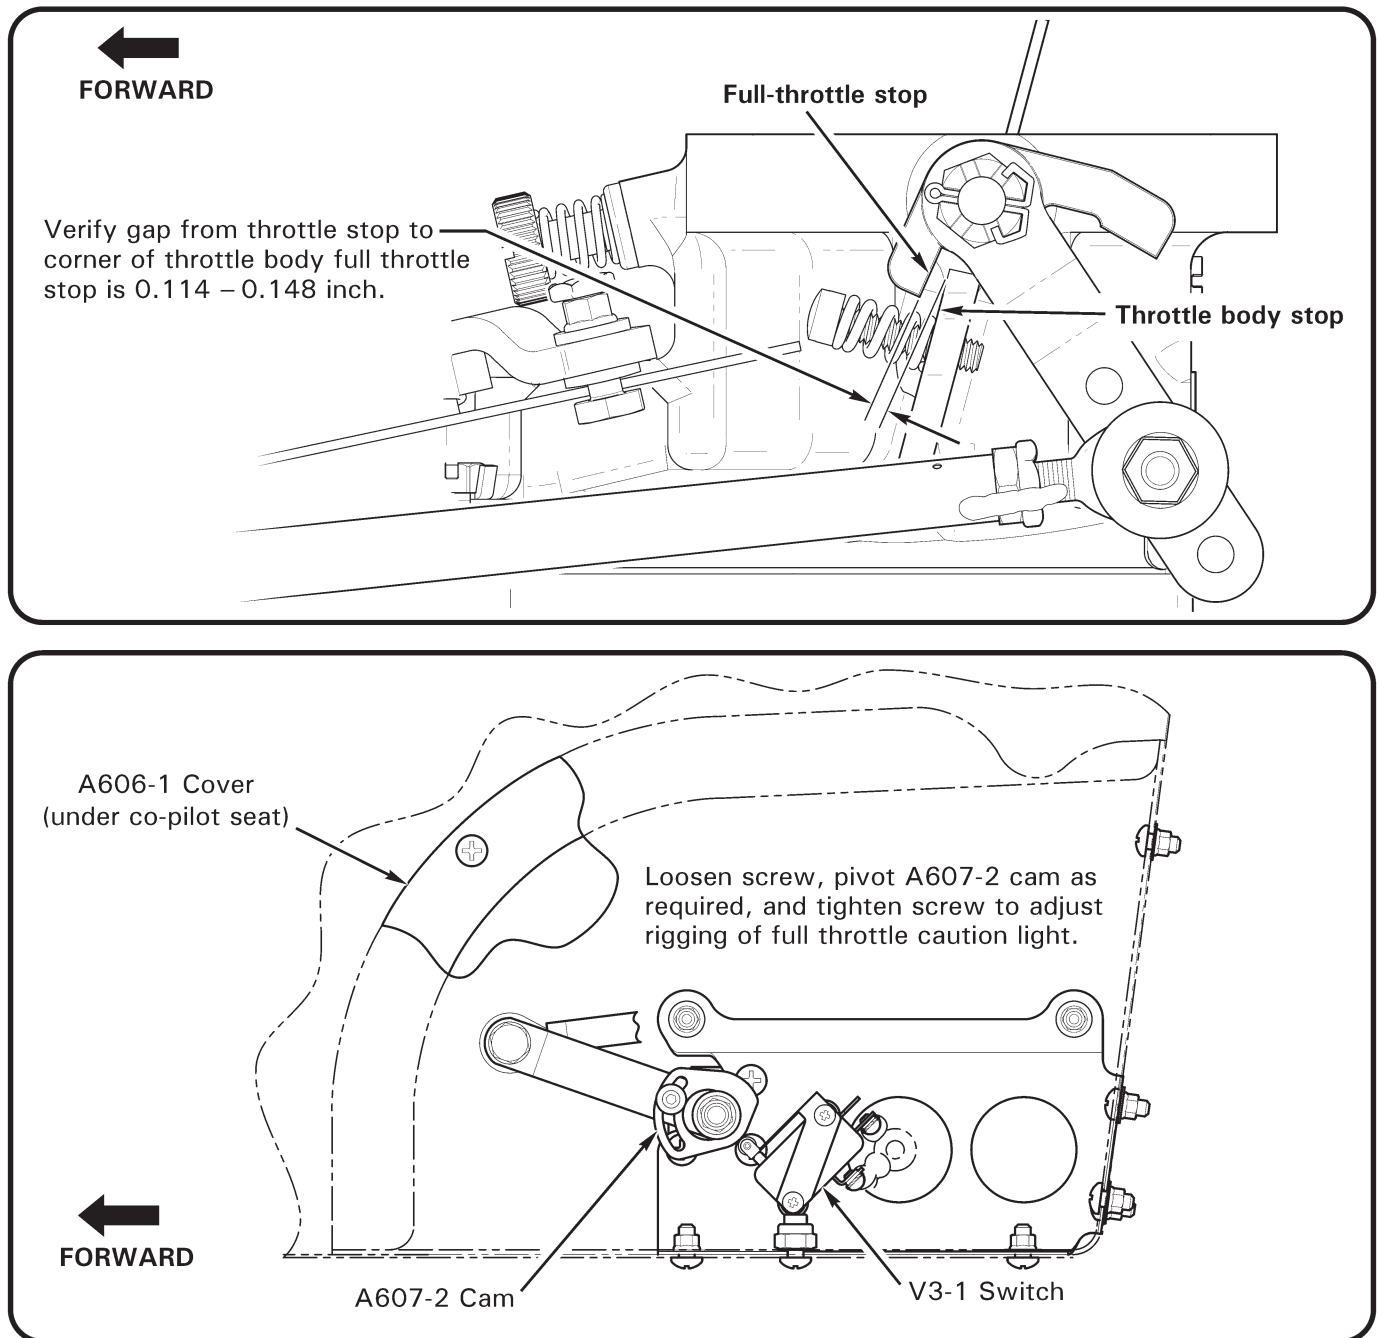

FIGURE 33-1 FULL THROTTLE CAUTION LIGHT RIGGING CHECK
- c. Refer to Figure 33-1. Verify gap from throttle stop to corner of throttle body full-throttle stop is 0.114–0.148 inch. Adjust as required per step 2.
- a. Refer to Figure 33-1. Raise collective full up, rotate (throttle) twist grip as required, loosen screw, and pivot A607-2 slotted cam (in throttle linkage, under co-pilot seat) so V3-1 switch activates when throttle stop is approximately 0.130 inch from corner of throttle body full-throttle stop. Tighten screw.